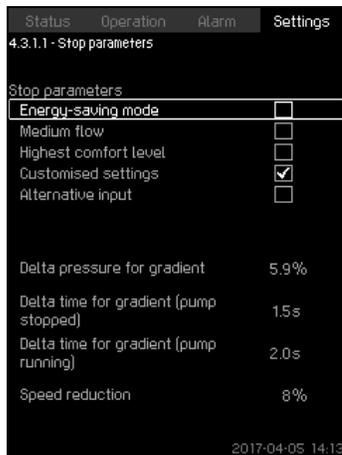

Fig. 76 Customised settings
- 3. Select one of the stop parameters. If you select "Customised settings", you must set the parameters shown in fig. 76. See the examples below.